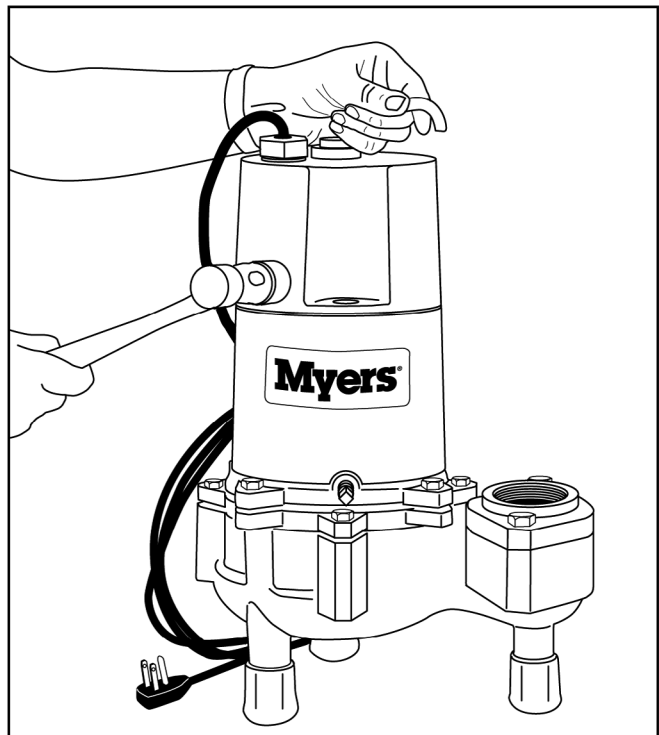

FIG. 9
2. Remove bolts from capacitor housing and bump housing with plastic hammer to loosen. Fig. 9